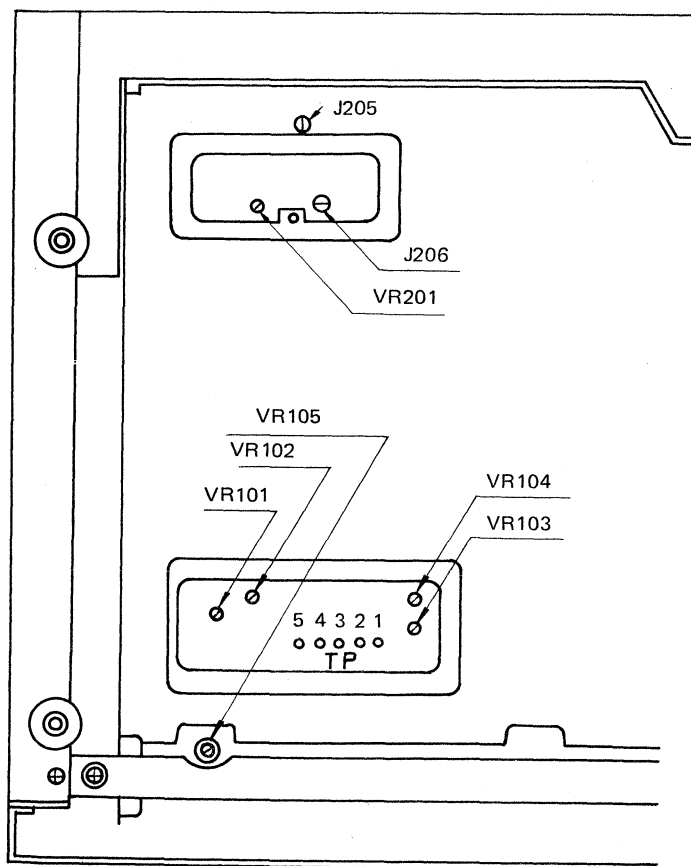

Figure 18
- (1) Set digital volt meter to DC, 20V range, and connect its \oplus terminal to J205 and \ominus terminal to J206. (See Fig. 18)
- (1) The adjustment of the pin is to be made with tonearm at the rest position.
- (2) Lead-in position moves gradually inward by rotating the eccentric pin (A) in a clockwise direction.
4. Adjustment of Random Programming (See Fig. 18.)
5. Adjustment of sensor to detect designated and unmodulated groove to start play in program mode. (See Fig. 18.)